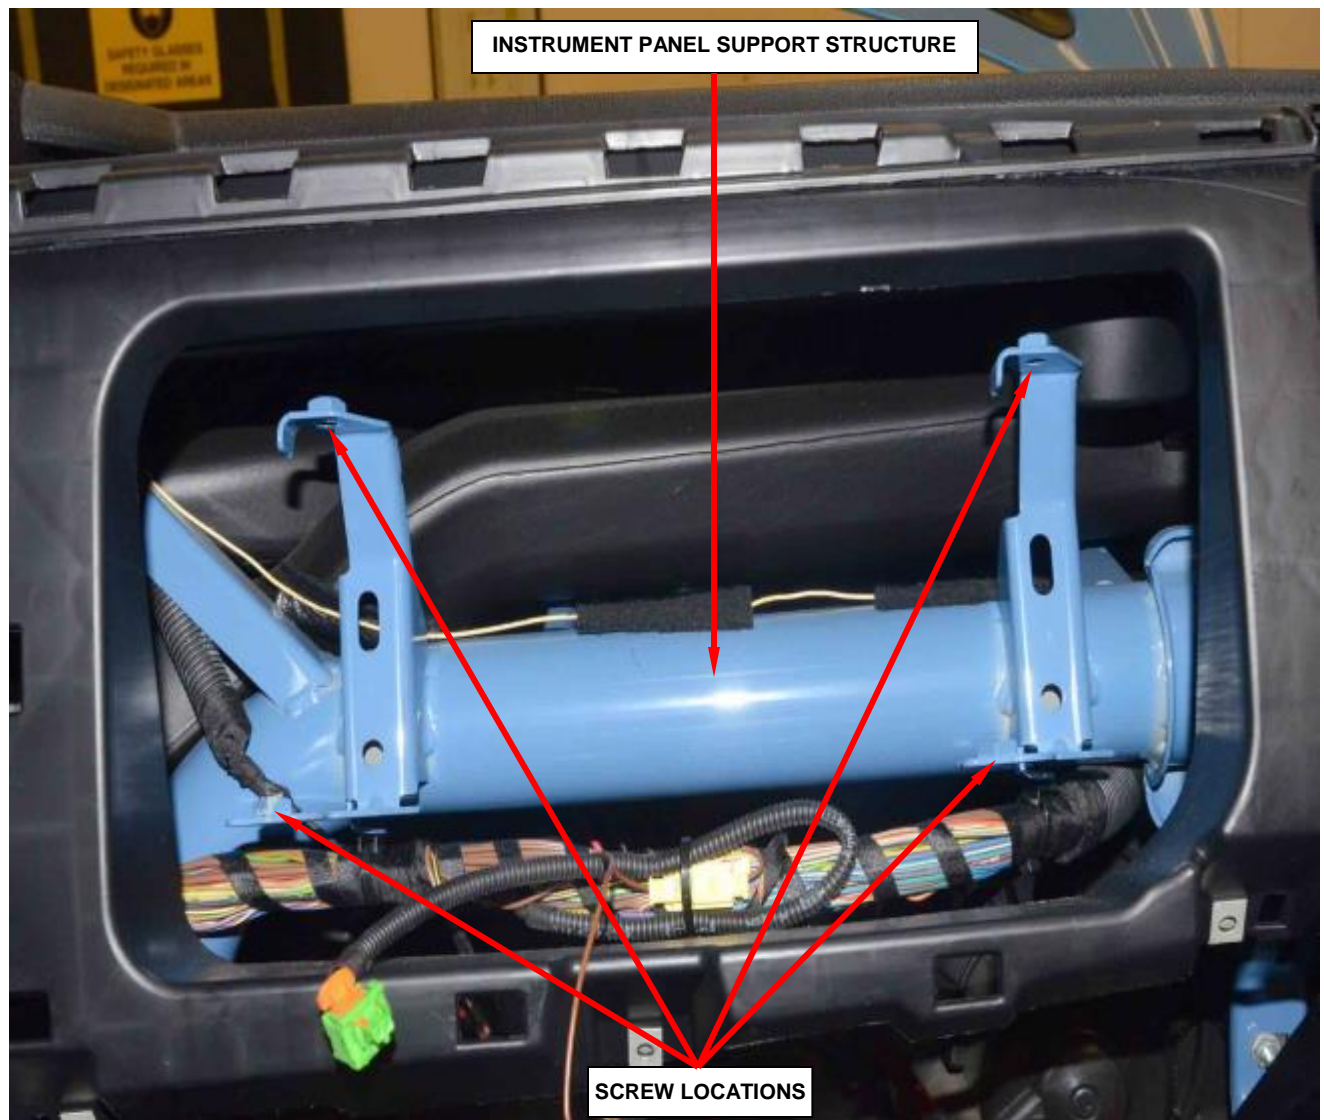

Figure 153 – Mounting Screw Locations
14. Reach up into the instrument panel glove box opening to access and remove the four screws that secure the stanchions on the back of the passenger airbag module to the brackets on the instrument panel support structure. **Discard the removed screws** (Figure 153).